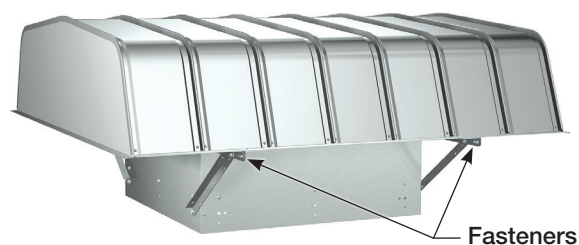

Figure 6
- Remove two fasteners shown in Figure 6.